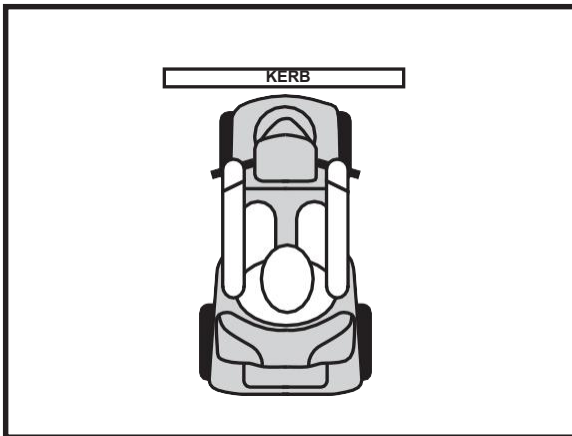

Figure 3. Correct Kerb Approach
**WARNING!** Be sure your Travel Scooter is traveling perpendicular to any kerb you may be required to ascend or descend. See figures 3 and 3A.